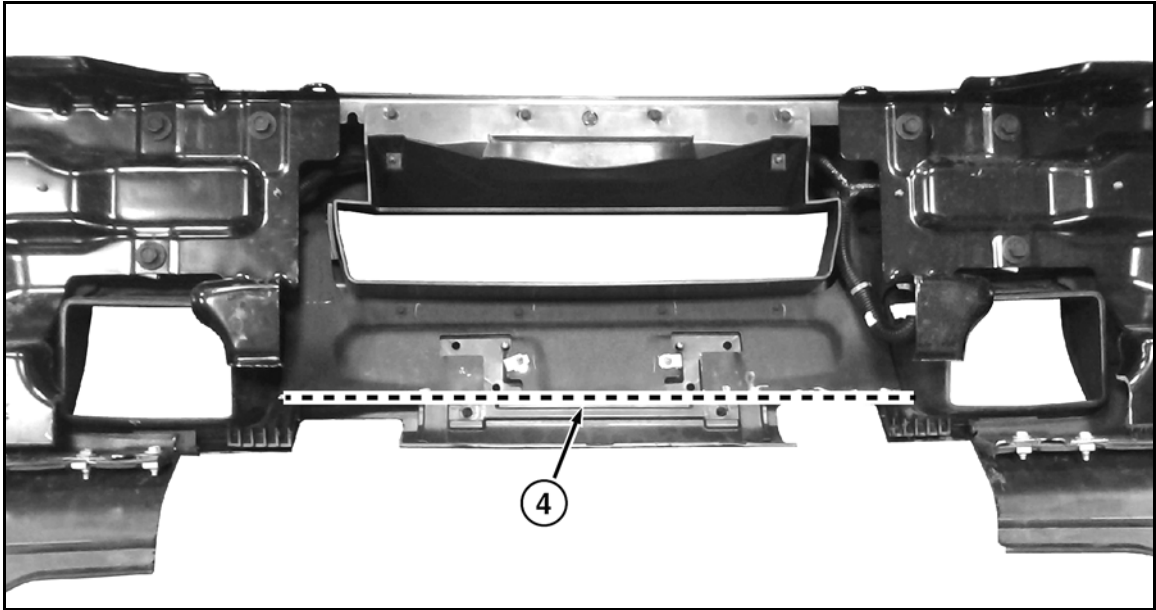

Figure 6
- D. Cut #4 - Be sure to cut #4 only into the integrated metal and not the plastic portion of the bumper (See Figure 6).
Note: For picture clarity, Step F is already shown completed in Figure 6.